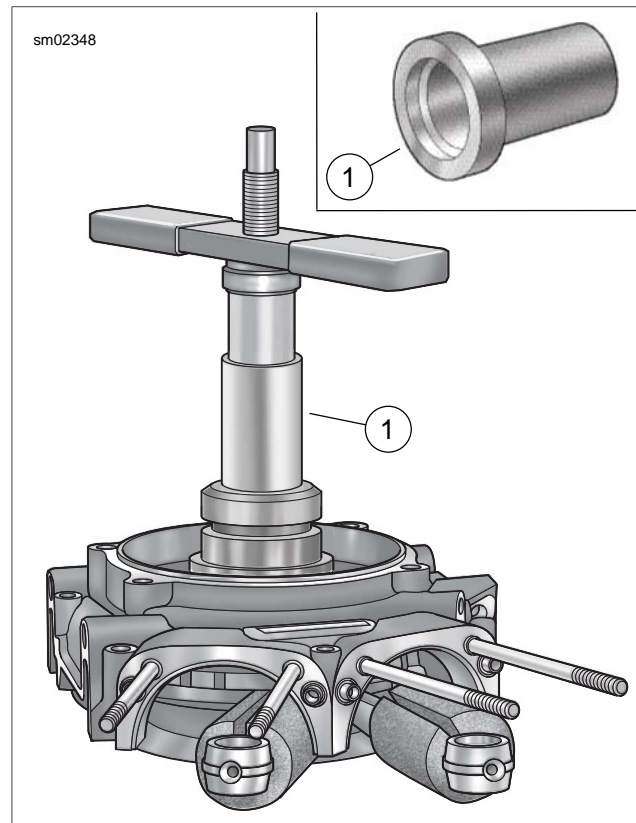

Figure 3-62. Sprocket Shaft Oil Seal Installer (Part No. HD-39361-B)
12. See Figure 3-62. Install **new** oil seal into bearing bore. Obtain pilot adapter, pilot shaft, short collar, Nice bearing, large flat washer and handle from SPROCKET SHAFT BEARING TOOL (Part No. HD-97225-55C).